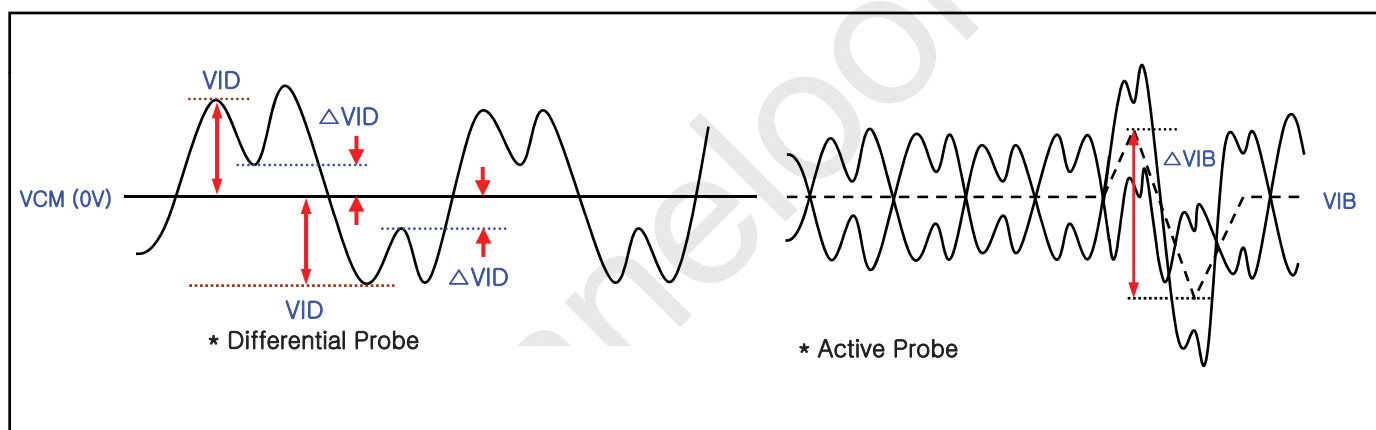

FIG. 2 Description of VID, ΔVID, ΔVIB
5. In case of mini-LVDS signal spec, refer to Fig 2 for the more detail.